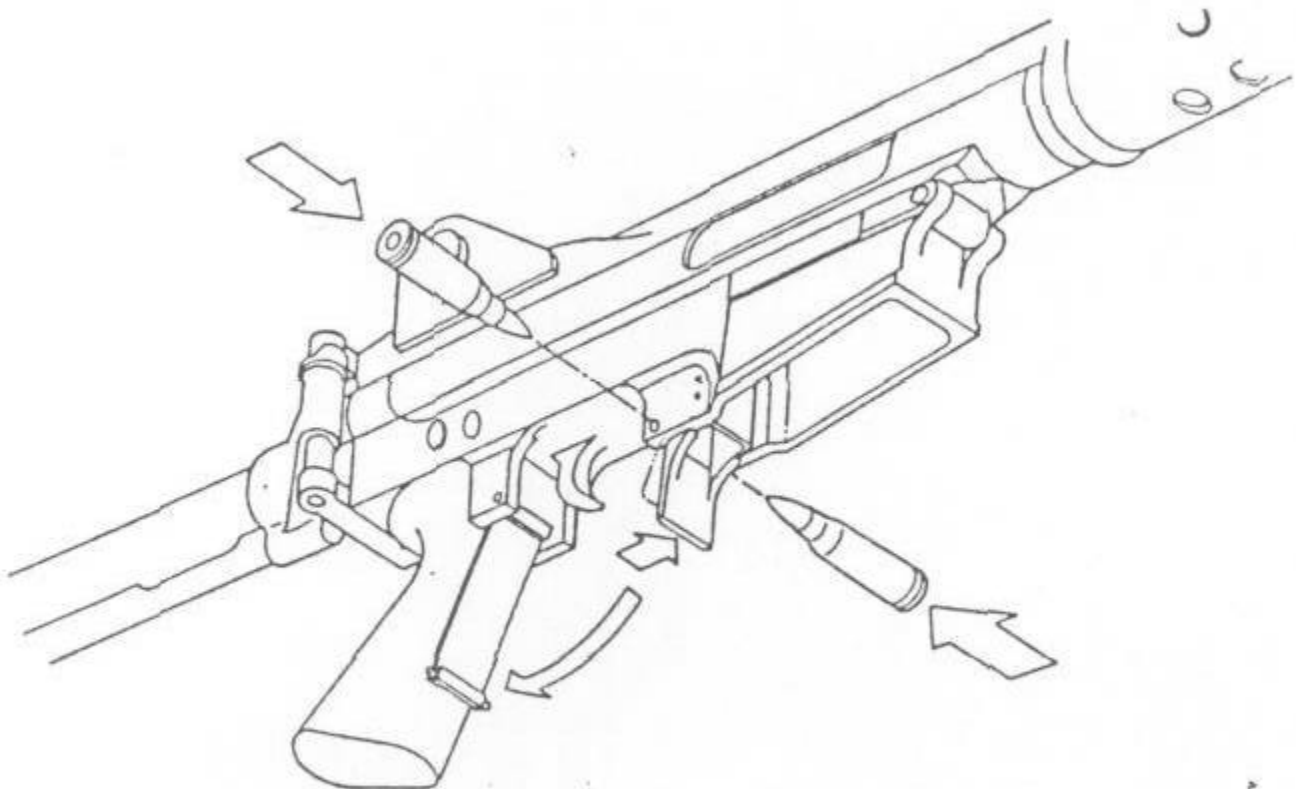

FIGURE 4
2. To open the hinged trigger guard, locate the spring-loaded detent pins at the front of the trigger guard. (See Figure 4).